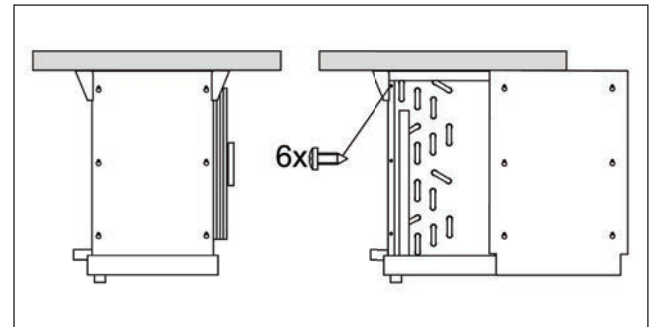

Fig. 11.1
2. Remove the panel of the casing on the refrigerant distributor side having loosened the six screws (Fig. 11.1).